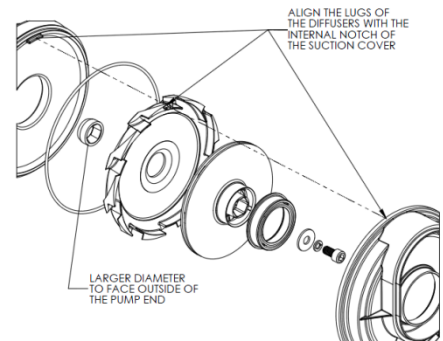

Figure 4
10. Install the wear ring #9 onto the impeller. Note that the orientation of the wear ring is important here. Refer to figure 4.
16. Install the wear ring #9 onto the impeller. Refer to figure 4.